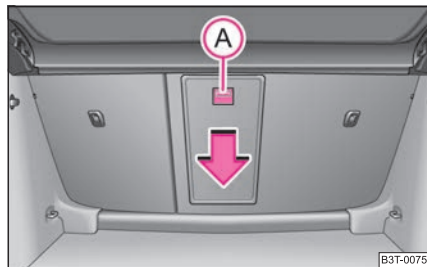

Fig. 105 Luggage compartment: Unlock button
- Push the unlock button (A) downwards ⇒ page 92, fig. 105 and fold the lid (with armrest) to the front.
- Fold the lid and the armrest up to the stop in upward direction - the lid must click into place audibly. You can recognize this on the fact that the red field above the unlocking button **A** of the luggage compartment is not visible ⇒ page 92, fig. 105.